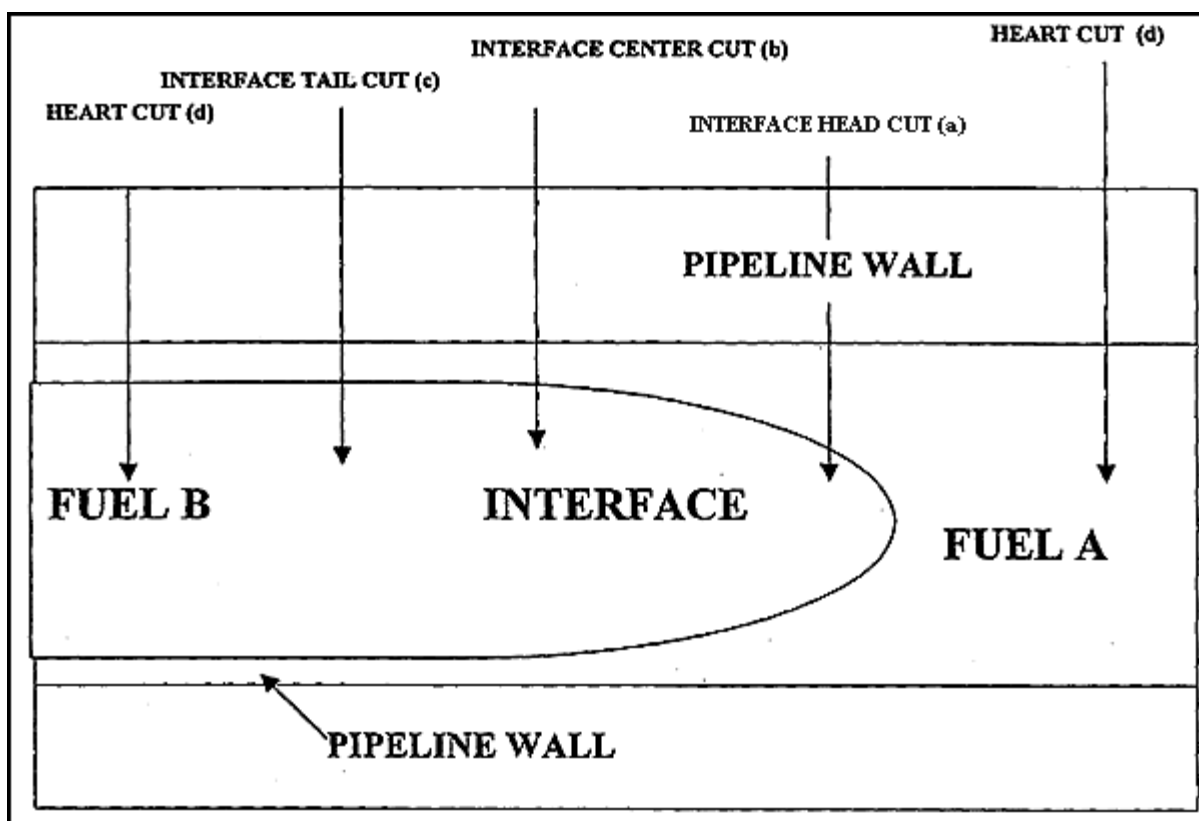

Figure 1-1. Product batch cuts
(2) Type of cuts. There are four types of cuts that can be made (See Figure 1-1.)